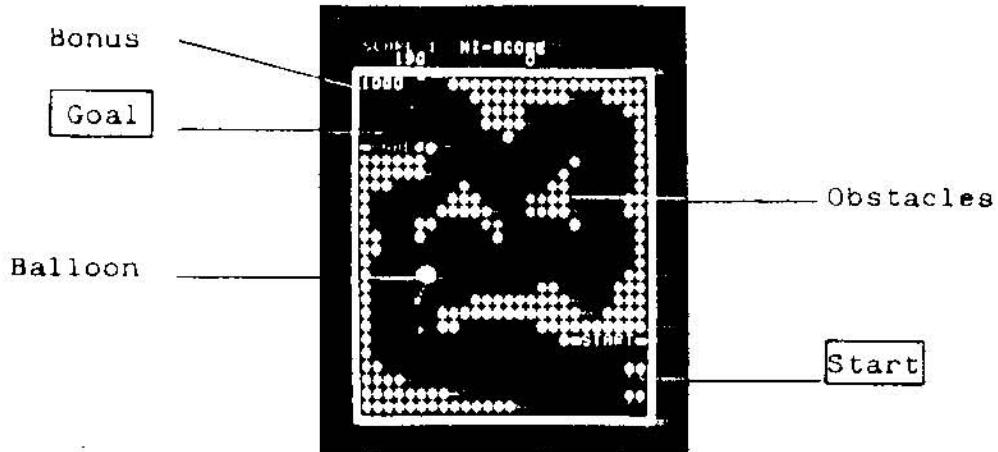

Fig. 3
- (1) Do not attempt to service with ordinary testing equipment, since the internal voltage of the testing equipment may cause damage to the circuitry.
- (2) Never connect or disconnect any of the solid-state modules while the power is on.
- After the game-start music is heard, play begins with the picture shown in Fig. 3.